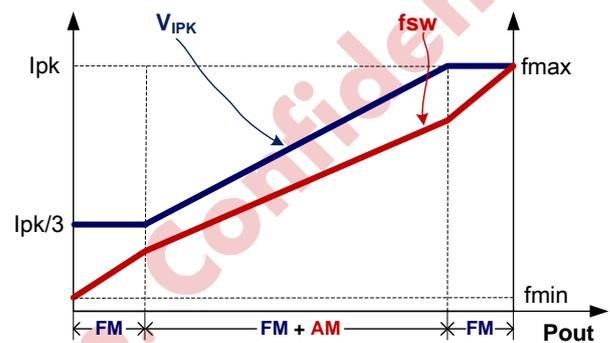

Fig.1
To meet the tight requirement of averaged system efficiency and no load power consumption, a hybrid of frequency modulation (FM) and amplitude modulation (AM) is adopted in KP35112 which is shown in the Fig 1.